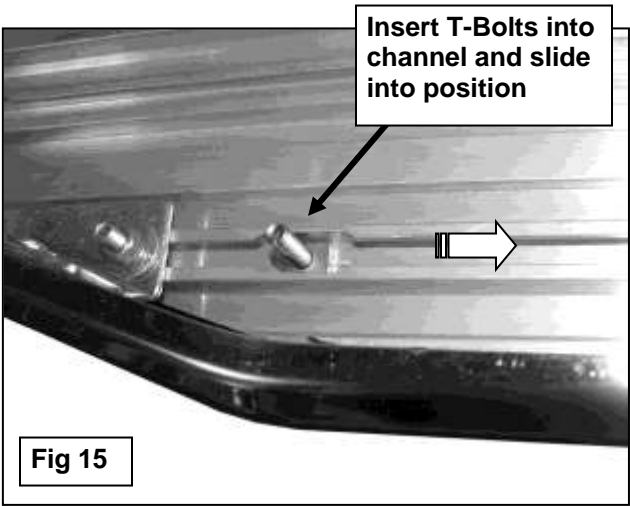

Fig 15
10. Carefully unwrap the Running Boards and select the driver side. Insert (6) 6mm T-Bolts into the slots in the end of the channels, (3 T-Bolts per channel), on the bottom of the Running Board, **(Fig. 15)**. Hold the Running Board up in approximate position and slide the T-Bolts down to line up with the Mounting Brackets. Tilt the Board up at a slight angle and push back against the vehicle until the T-Bolts fit into the slots on the Brackets. Secure the Board to the Brackets with (6) 6mm Flat Washers, (6) 6mm Lock Washers and (6) 6mm Hex Nuts, **(Fig. 16)**. Do not tighten hardware at this time. **NOTE:** the Running Board is designed to fit close to the vehicle. It may be necessary to temporarily loosen the Bracket hardware and tilt the Brackets downward to insert the Running Board.